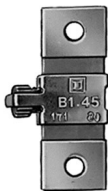

Figure 1
For a controller ambient temperature other than 40 °C (104 °F) trip current can be calculated by applying a correction factor from the curve in Figure 1. The approximate trip current for a particular ambient temperature is the product of (1) the multiplier M corresponding to the temperature and (2) the 40 °C trip current rating.
Example 2: Determine the trip current for the motor and controller in Example 1, except the controller is in a 30 °C (86 °F) ambient temperature. From the curve in Figure 1 the multiplier M is 1.1 at 30 °C. The approximate trip current is 16.0 × 1.25 × 1.1 = 22 A.
Always be certain the correct thermal units are installed in the starter before operating the motor. Thermal units should always be mounted so that their type designation can be read from the front of the starter (see Figure 1). Melting alloy thermal units should be mounted so that the tooth of the pawl assembly can engage the teeth of the ratchet wheel when the reset button is pushed.